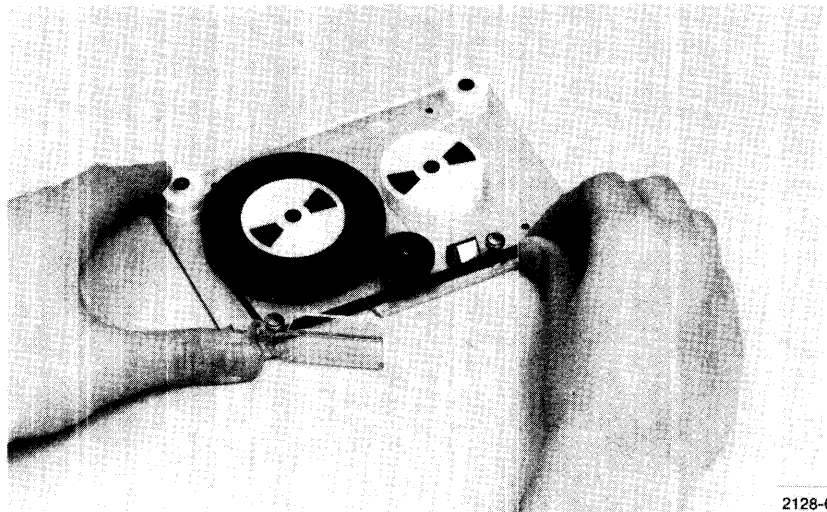

Fig. 2-7. Tape positioning within the cartridge.
3. Place the loose end of the tape across the front of the cartridge, threading it through in front of the two guide posts. Now, keeping light tension on the tape, place the loose end of the tape around the outside edge of the take-up spool, to the point where the spool meets the tension band (Fig. 2-7).